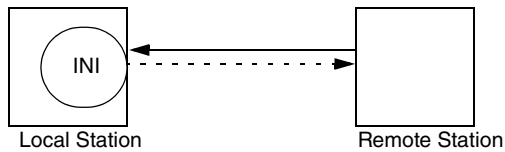

Figure 3. Q0301ZS and Q0302AC
- ▶ Q0301ZS - INI70 Asymmetric Software for Two Systems (Figure 3)
- ▶ Q0302AC - Upgrade to INI70 Asymmetric Software for Two Systems (Figure 3)